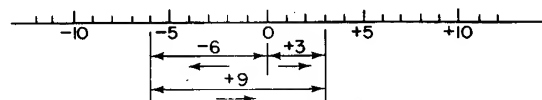

Fig. 1.16
1. To find the value of $-6+9$. Measure 6 units to the left of 0 to represent -6 . From this point measure 9 units to the right to represent $+9$. The final result is 3 units to the right of 0 (Fig. 1.16).